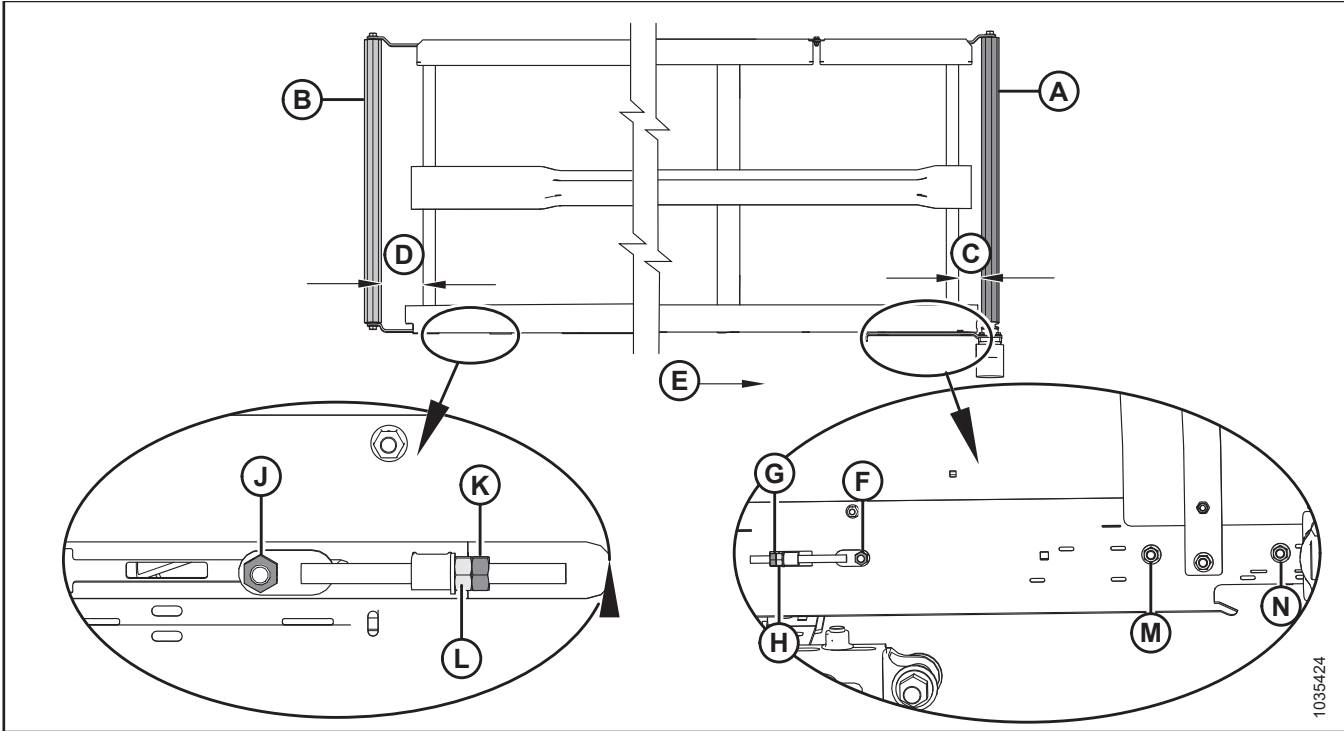

Figure 6.1: Draper Tracking Adjustments – Left Draper
2. Adjust drive roller (A) to change **C** (refer to Table 6.1, page 232 and Figure 6.1, page 232) as follows:
- a. Loosen nuts (F), (M), and (N), and jam nut (G).
- b. Turn adjuster nut (H).
- c. Tighten nuts (F), (M), and (N), and jam nut (G).
3. Adjust idler roller (B) to change **D** (refer to Table 6.1, page 232 and Figure 6.1, page 232) as follows:
- a. Loosen nut (J) and jam nut (K).
- b. Turn adjuster nut (L).